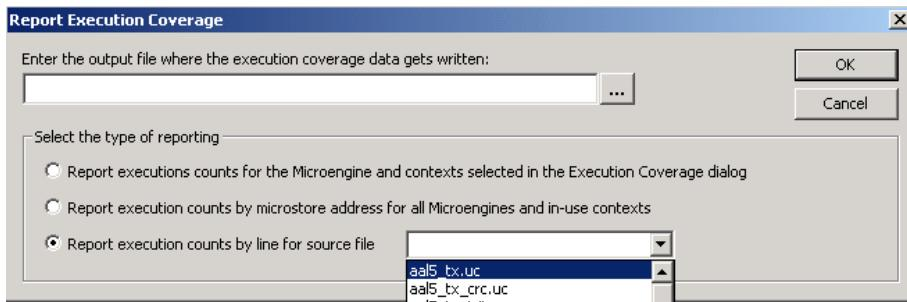

Figure 2.61. Report Execution Coverage by Line
3. Report execution counts by line for source file. Selecting this option enables the source file combo box, which lists all source files that are part of all the loaded Microengines (see Figure 2.61).